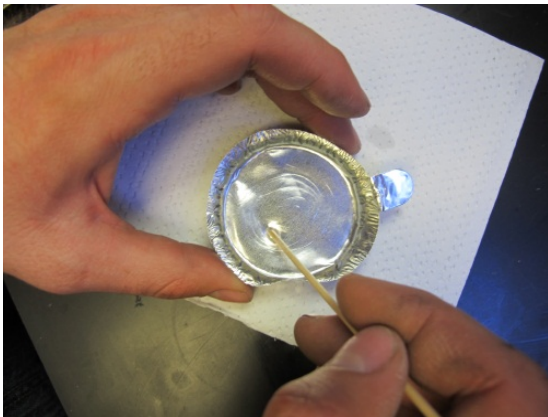

Figure 1
2. Stir the resin slowly with wooden stick until there are no trails of the two mixing (Fig. 1) and go slow to avoid bubbles.